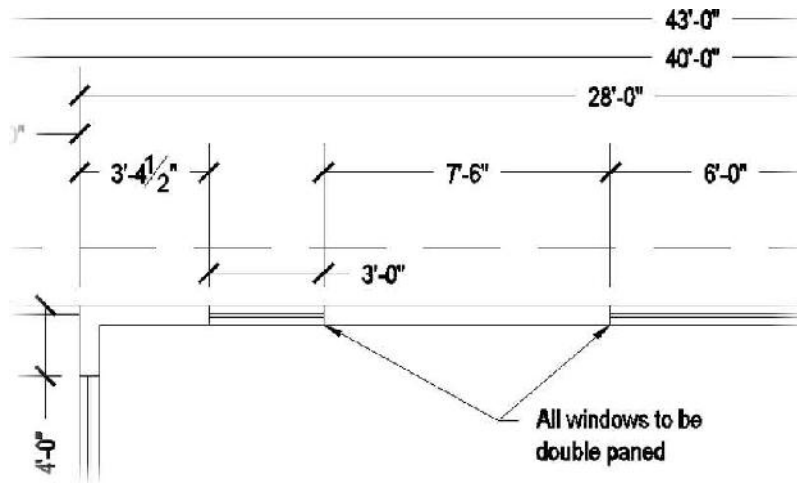

FIGURE 12.48: Moving the window dimension and dimension text with grips
8. Press Esc to deselect the dimension (see Figure 12.48).